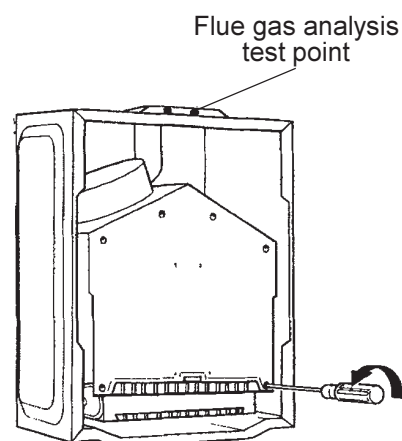

Fig. 24
- 8.6.3 Remove front of combustion chamber by releasing six screws (fig. 24).